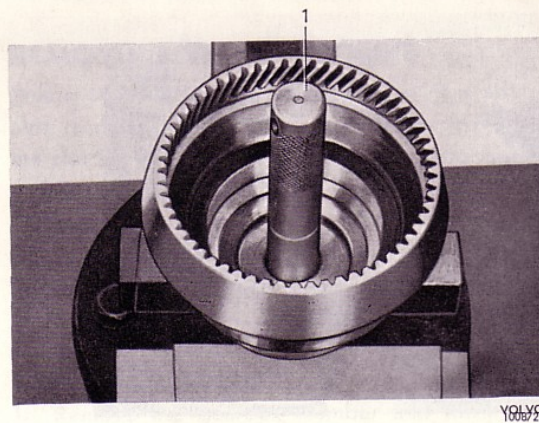

Fig. 25. Fitting the bush, output shaft
1. Press the bush on to the output shaft with drift SVO 2417, see Fig. 25. Press the front bearing on to the output shaft with drift SVO 2412.